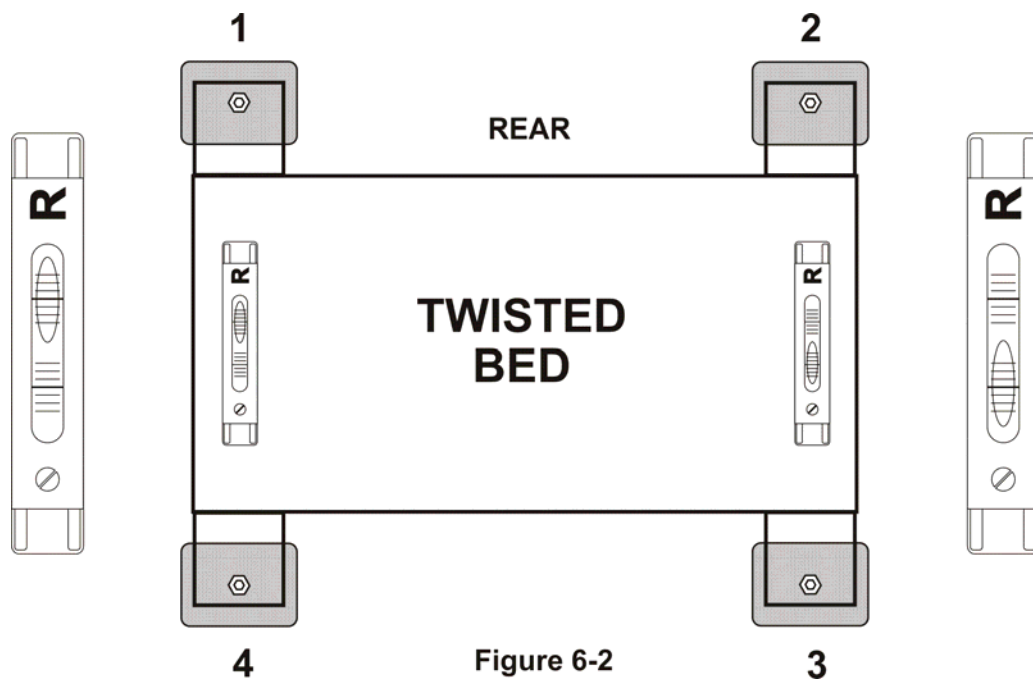

Figure 6-2
4. If your level condition is as shown in Figure 6-2, the press is twisted in the other direction. Raise feet 2 and 4, alternately and in small increments, until press is level in both locations.